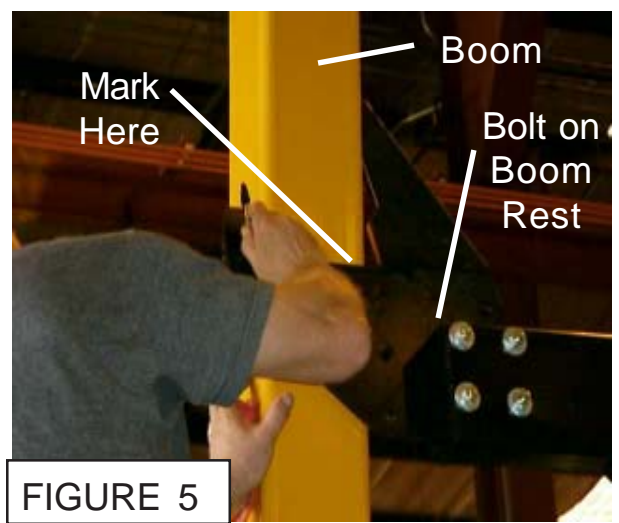

FIGURE 5
5. **Fill Tank.** Fill the Hydraulic Tank (See Figure 4) Fill tank till the Oil is visible in the sight Gauge (See Figure 5 & 8). This will fill tank for the start but it will have to be filled again later.
5. **Marking Boom.** Use a Black (or color desired) to mark the Boom, Make a Line on the Boom parallel with the Bolt on Boom Rest across the Boom, (**See Figure 5 & 6**). This line will be used to align the the Boom Plate Rest Hook for welding to Boom.